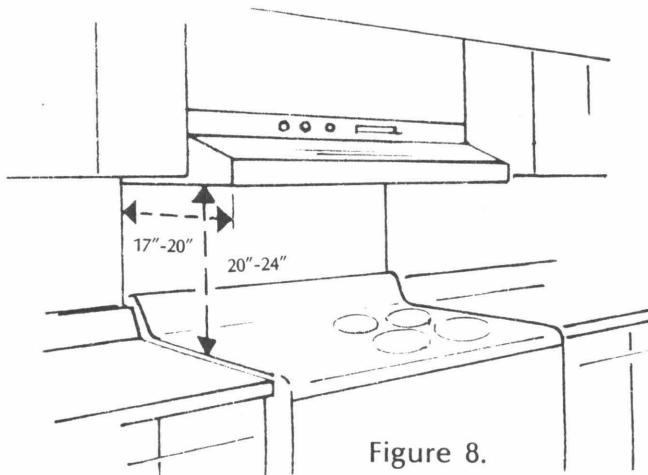

Figure 8.
10. The depth of the range hood determines the height at which it is located. A hood 17 inches or less in depth should be placed no less than 20 inches above the range top, hoods 18 inches or more in depth should be installed no less than 24 inches above the range top. See Figure 8.